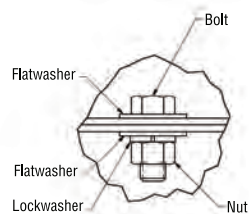
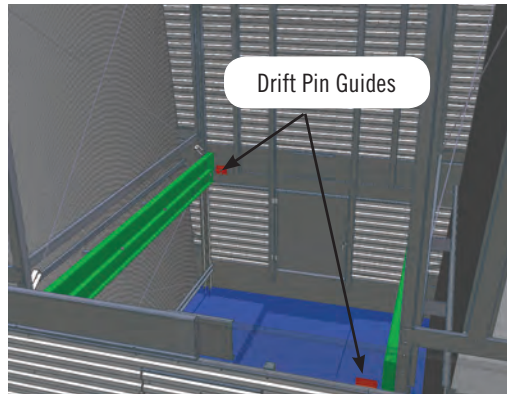

Figure 4. Typical Bolting
Figure 6. Upper and Lower Assembly - Drift Pin Guides
- Secure the upper section in place as shown in **Figure 4** to ensure leak-free operation.
- Bolt the top sections onto the bottom sections as shown in **Figure 4** on **page 5** using the bolting channels in **Figure 6**.